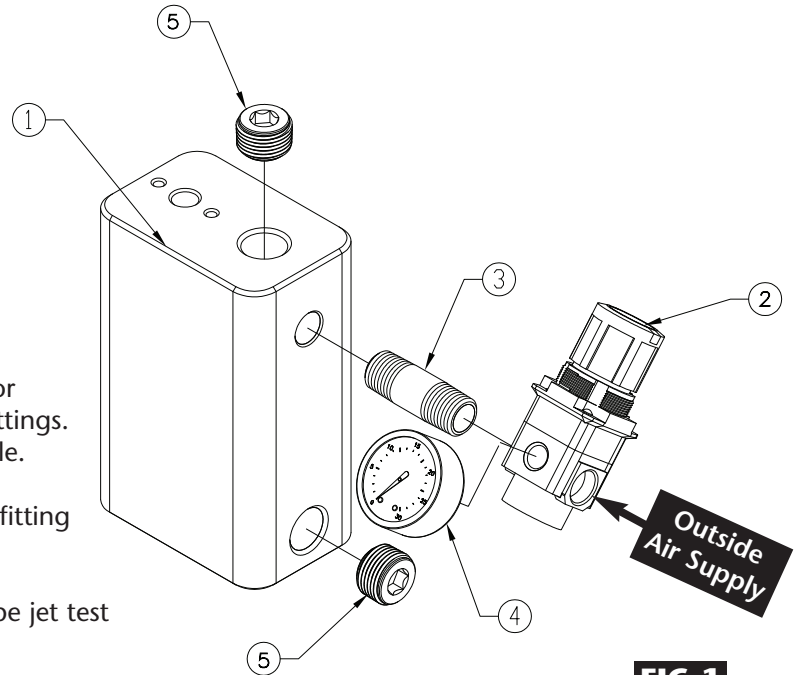

FIG. 1
3. Note that on bottom of regulator arrow must point towards Main body No. 722-1. Thread the Regulator Valve No.772-2 onto the end of pipe nipple No.772-3. **See Fig 1 & 2.**
4. Install gauge No. 722-4 to the regulator using thread sealant or Teflon tape. **See Fig 1.**
7. Install one No.772-6 Allen plug into the lower side of No.772-1 main body **See Fig 1**
- Note:** *If you want to do your jet testing using just air then install the other plug No.772-6 into the top of the main body No.772-1. If you are doing the jet testing using oil then fill the Main body No. 772-1 with H-D 20-50 motor oil and install plug No.772-6. See Fig. 1.*